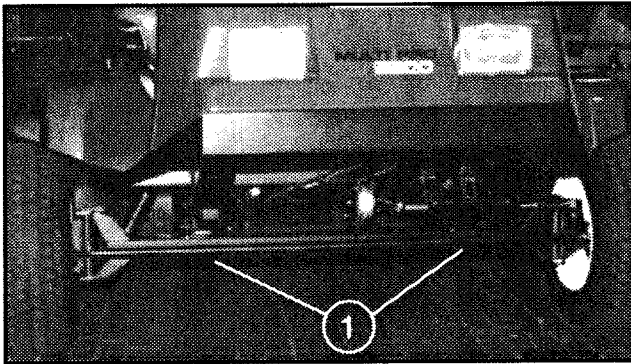

Figure 21
3. The jacking points at the front of the vehicle are under the front axle directly beneath the leaf springs. (Fig. 21)